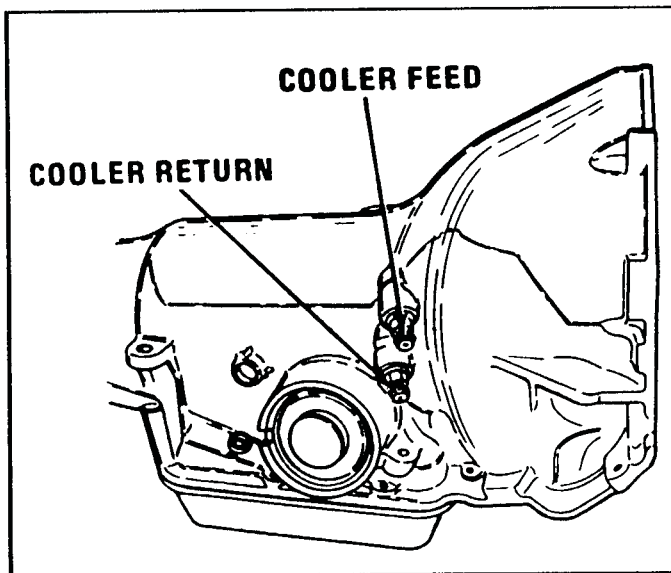

Figure 5
3. The cooler feed and cooler return fittings are identified in Figure 5.